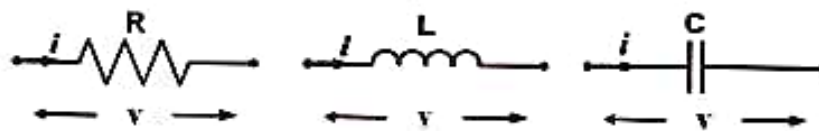

Fig.4.7. Current and voltage shown in resistor, inductor and capacitor
**4.2.1. Voltage source electrical system:** If  $i$  is the current through a resistor (Fig.4.7) and  $v$  is the voltage drop in it, then  $v = Ri$ .
If  $i$  is the current through an inductor (Fig.4.7) and  $v$  is the voltage developed in it, then  $v = L\frac{di}{dt}$ .
If  $i$  is the current through a capacitor (Fig.4.7) and  $v$  is the voltage developed in it, then  $v = \frac{1}{C} \int i dt$ .